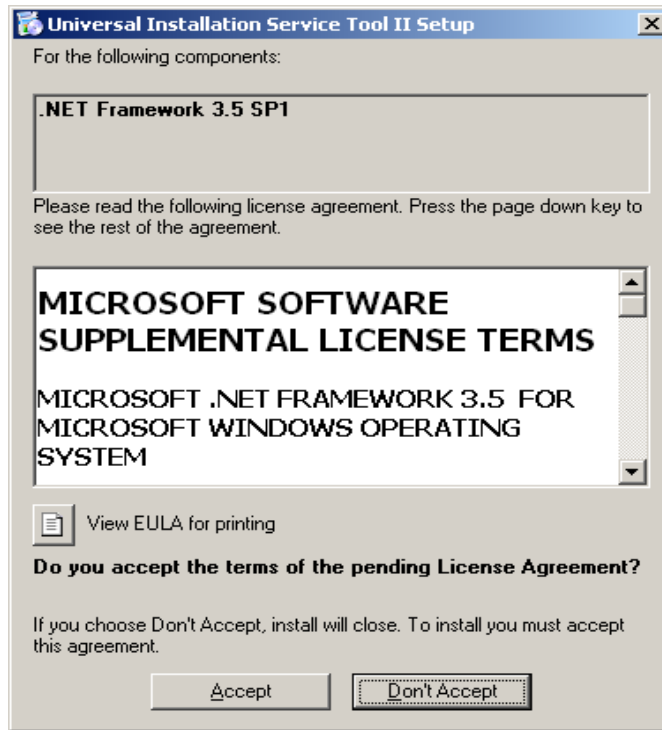

Figure 2.2 – License Agreement
**2.4** The “License Agreement” dialog box will open as shown in Figure 2.2. This dialog box will only show if the .NET Framework is not currently installed on the PC. Select “Accept” to continue loading the software. The setup will initialize and configure components. This function may take several minutes to complete.